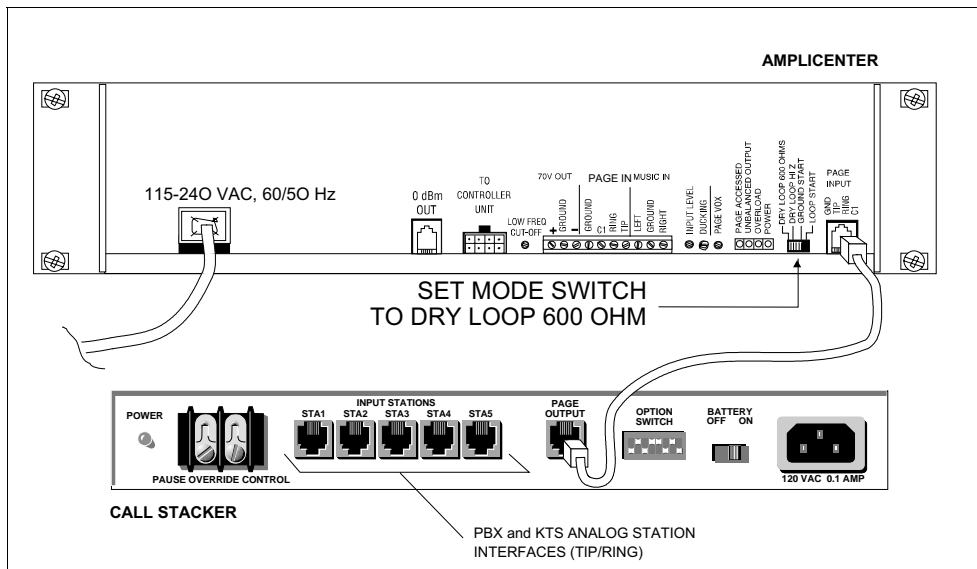

Figure 5. Connection to AmpliCenter (Optional)
- Set the option switch on the Call Stacker (see Figure 5) for the desired system configuration (refer to Table 1).
NOTE: The connection to the AmpliCenter depicted in Figure 5 is used instead of a connection directly to the Controller.